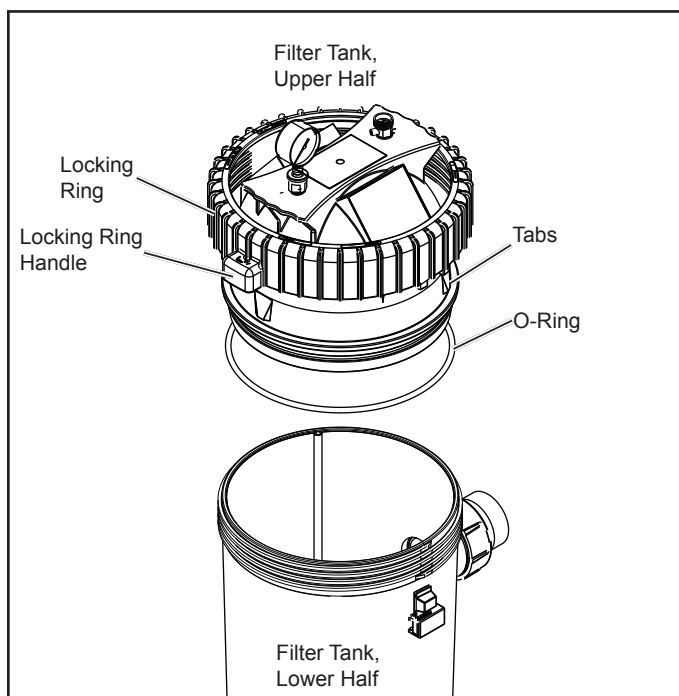

Figure 6. Locking Ring
1. Be certain the o-ring is in position in the upper tank half. Press the filter lid over the lower half until seated. Lubricating the o-ring with a silicone based lubricant will help with installation. See Fig. 6.